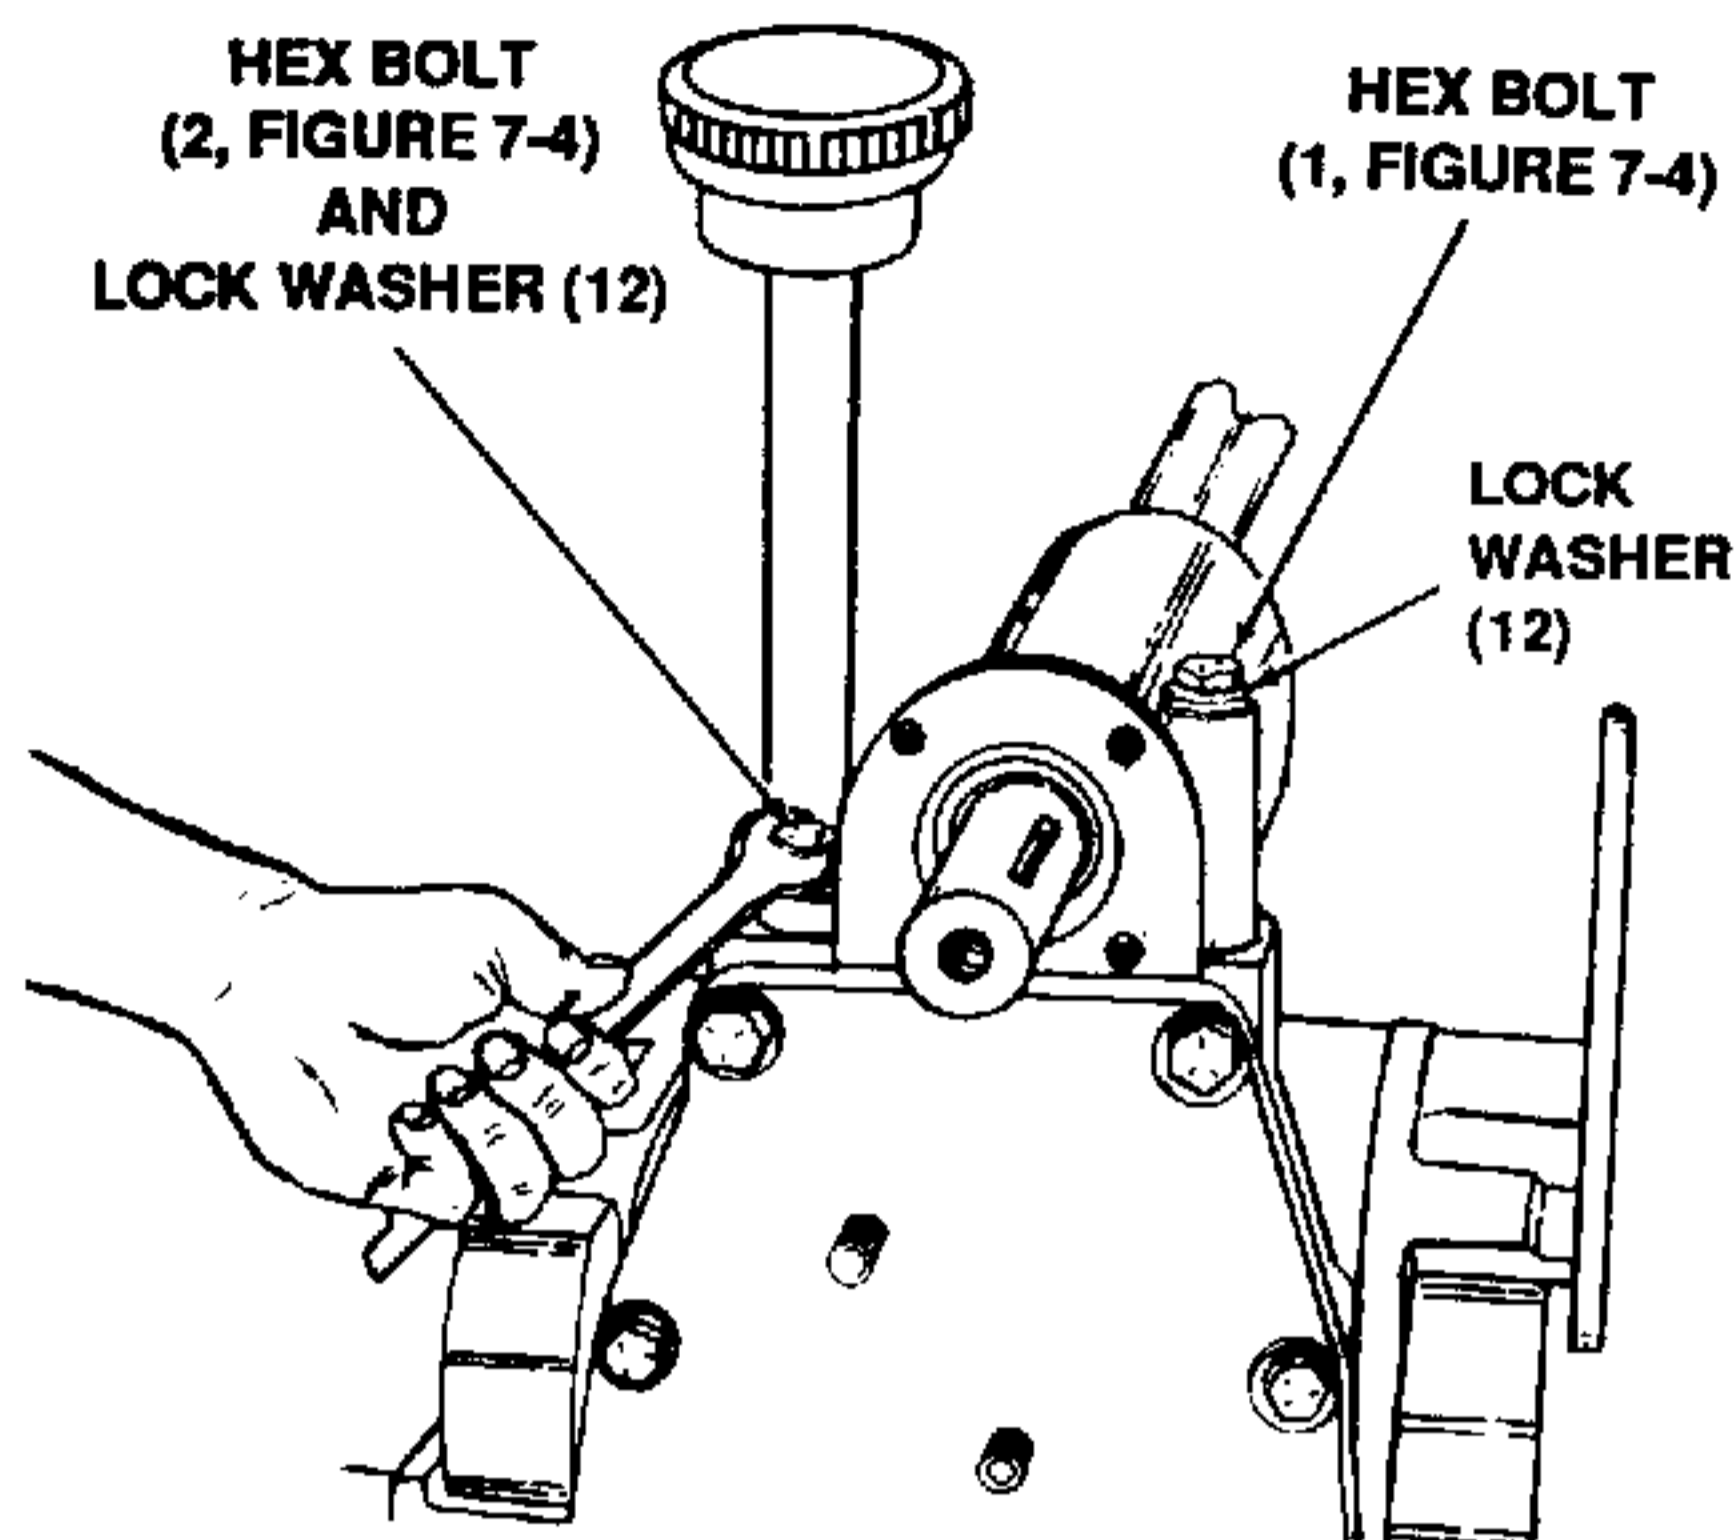

Figure 7-12. Securing Rear PTO Clutch Shaft.
- c. Secure rear PTO clutch shaft to differential with 3/8-inch ID lock washers (11, Figure 7-4), 2-3/4-inch long hex bolt (1) and 1-inch long hex bolt (2). Refer to Figure 7-12.